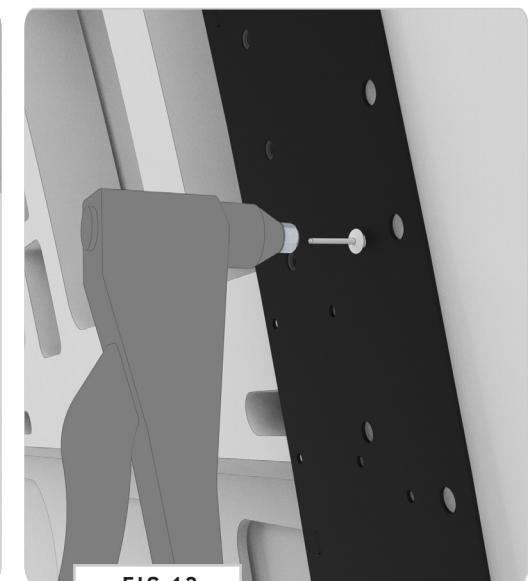

FIG 13
4.3 Install Rivets: After the paint has dried, install the **Rivets** (**FIG 13**).